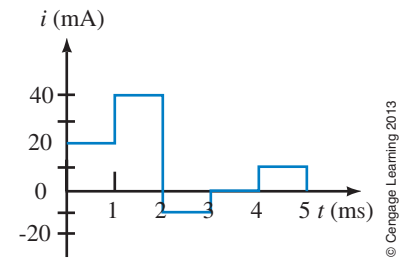

FIGURE 10-43
44. The current through a $1\text{-}\mu\text{F}$ capacitor is shown in Figure 10-43. Sketch voltage v_C scaled with numerical values. Voltage at $t = 0 \text{ s}$ is 0 V.